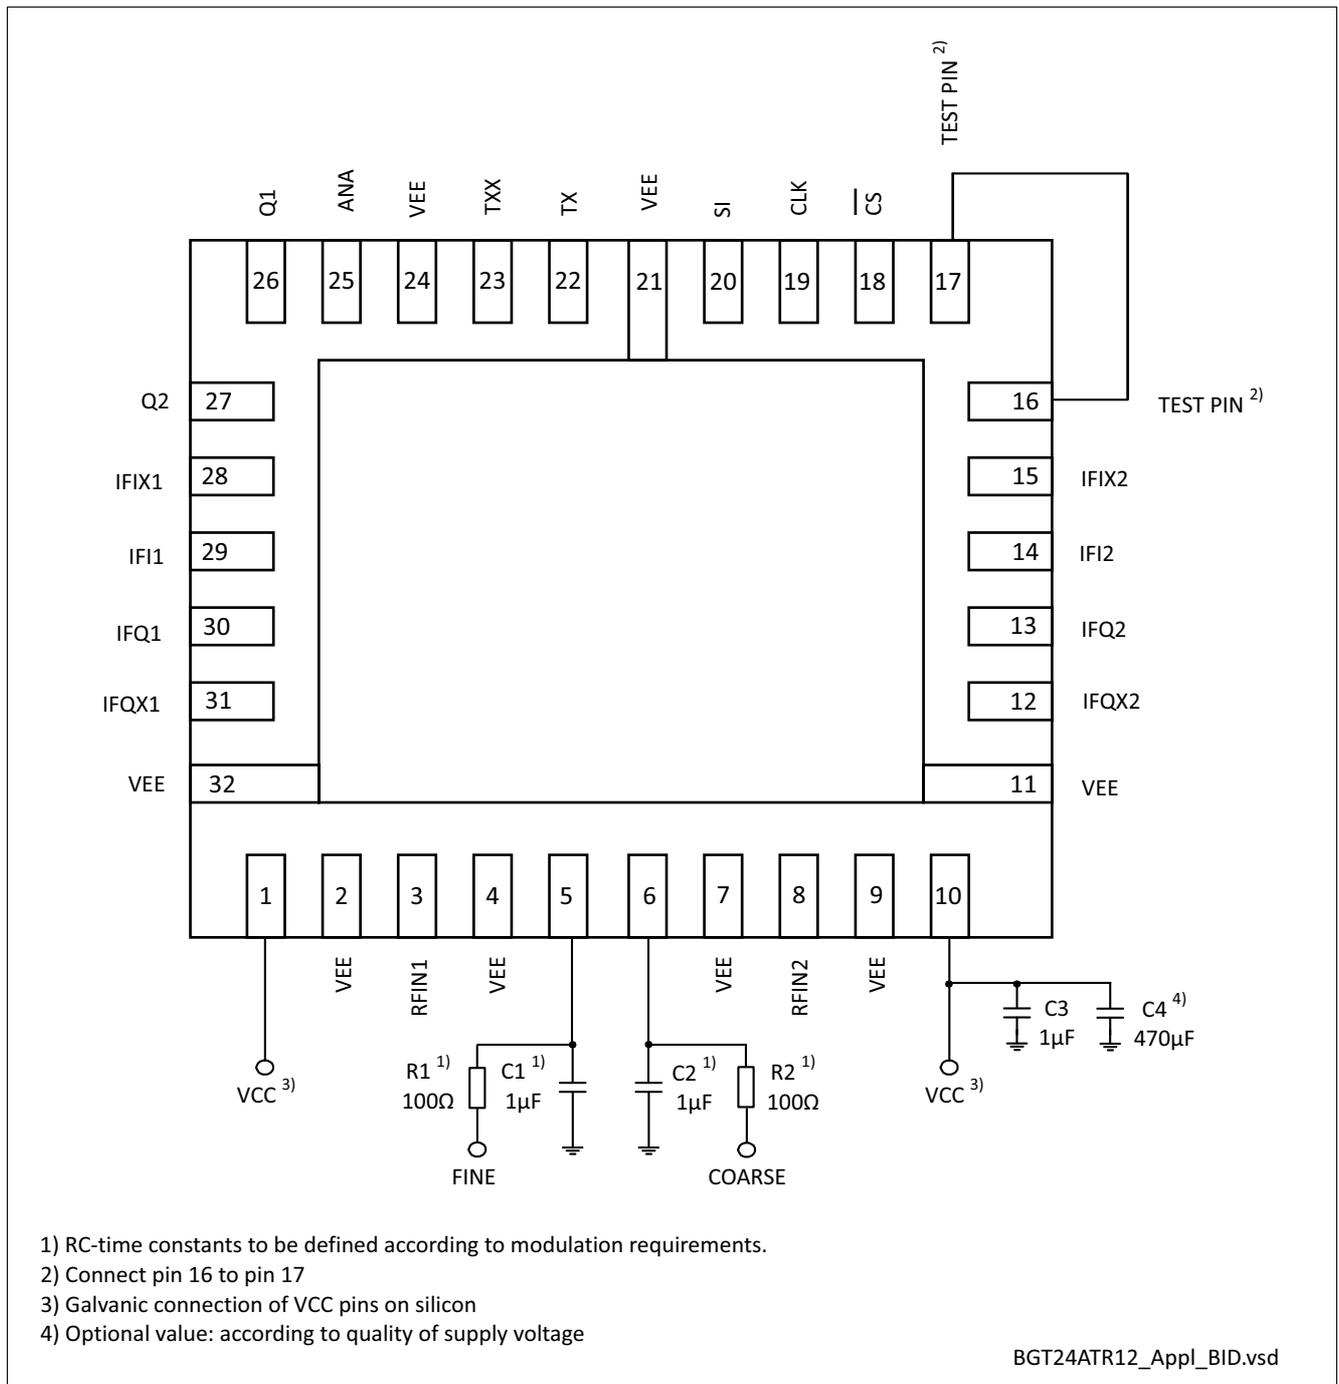

Figure 3 Application Circuit with Chip Outline (Top View)
- 1) Performance based on Application Circuit Figure 3 on Page 16, Cross Section of Application Board, Compensation Structures and Application Board Layout Figure 5 on Page 22ff and Footprint Figure 9 on Page 25
1) Performance based on Application Circuit Figure 3 on Page 16, Cross Section of Application Board, Compensation Structures and Application Board Layout Figure 5 on Page 22ff and Footprint Figure 9 on Page 25